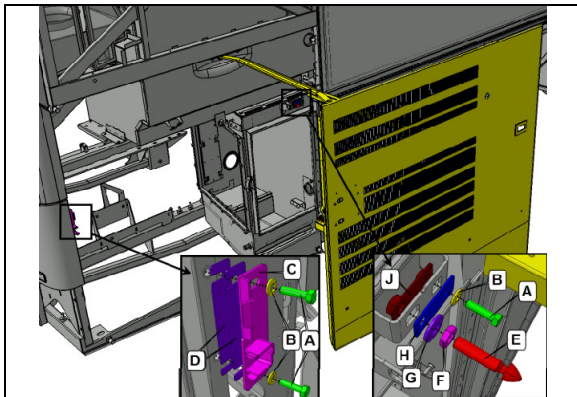

FIGURE 124
1. Install strike plate C and pin E centered in the available adjustment position provided by respective slotted holes (FIGURE 124). The components should be snug but not tight so that they can move when the door will be closed later on in this procedure.